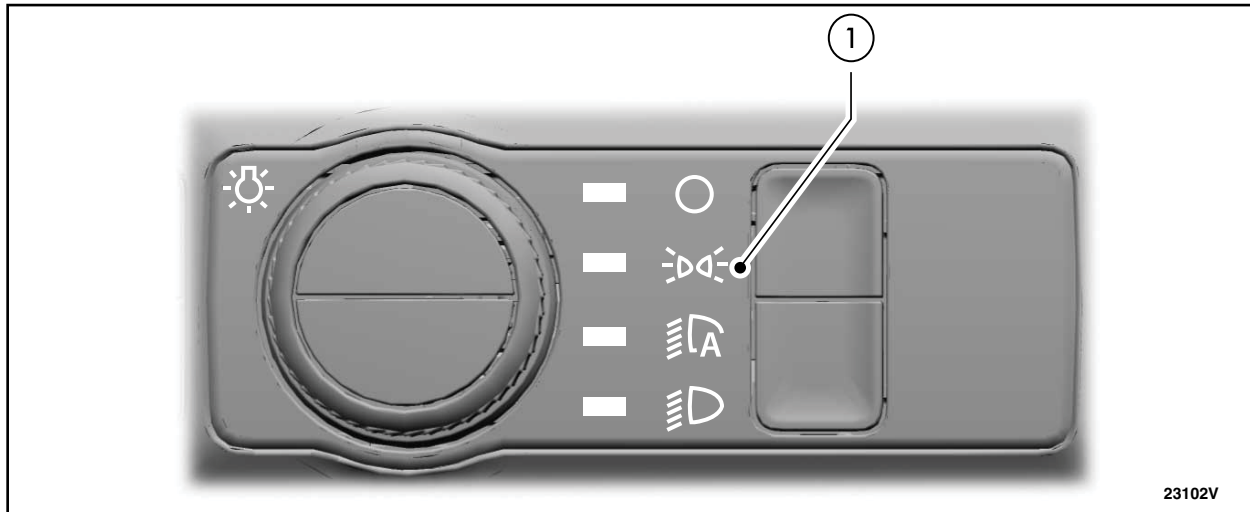

FIGURE 21
25. Start the vehicle and turn the light knob to the "parking light" mode. See Figure 21.